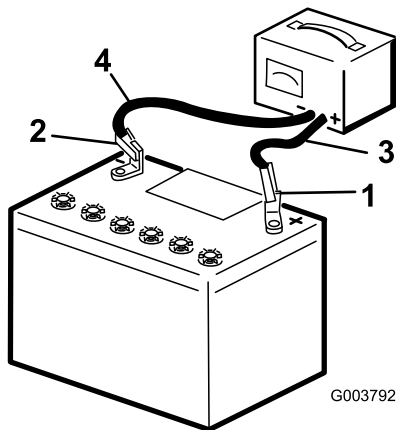

Figure 35
3. Charge the battery for 10 to 15 minutes at 25 to 30 amps or 30 minutes at 4 to 6 amps (Figure 35). Do not overcharge the battery.
4. When the battery is fully charged, unplug the charger from the electrical outlet, then disconnect the charger leads from the battery posts (Figure 35).